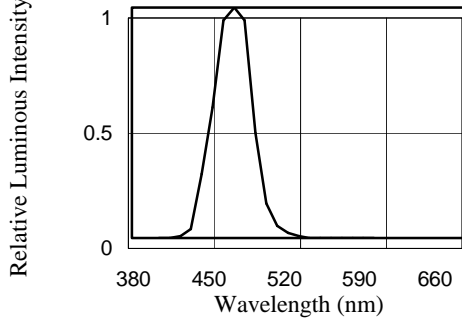

FIG.1 RELATIVE INTENSITY LUMINOUS VS. WAVELENGTH
- (1).The Fig. 1 temperature profile shall be at the surface of LED resin.
- (2).Number of reflow process shall be less than 2 times.